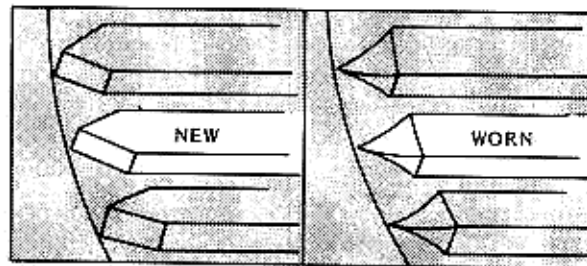

Fig. 6-14 Worn Sleeve Teeth
3. **Sleeve.**—The sleeve should be visually inspected. Pay close attention to the condition of the toothed portion at the end of each spline. Worn teeth cause the transmission to slip out of gear. Also check the side of each spline to see if a groove has been worn in it. (See Fig. 6-14.) Slide the sleeve back and forth over the hub to check for a smooth unrestricted motion. If the condition of the splines is questionable it is usually wise to replace the sleeve.
Measure the wear to the shift fork fingers as shown in Fig. 6-14. Standard tolerances are 5.75–5.85 mm. (.2264–.2303 in.). Service limit is 5.45 mm. (.2146 in.). Also check the clearance between the shift fork fingers and the synchronizer sleeve. Standard clearance is 0.1–0.3 mm. (.0039–.0118 in.), maximum is 0.8 mm. (.0315 in.). Visually inspect the forks to see if they are bent. Replace the shift fork, sleeve or both if necessary.